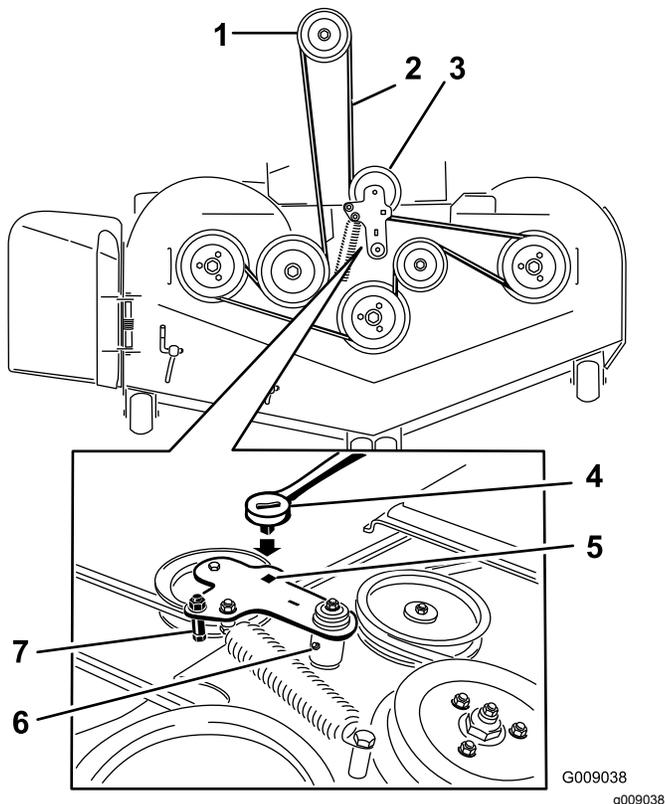

Figure 82
7. Use a ratchet in the square hole in the idler arm to remove tension on the idler spring (Figure 82).
9. Remove the belt guide on the spring loaded idler arm shown in Figure 82.
11. Install the new belt around the mower pulleys and the clutch pulley under the engine (Figure 82).
12. Install the belt guide on the idler arm shown in Figure 82.
13. Using the ratchet in the square hole, install the idler spring (Figure 82).